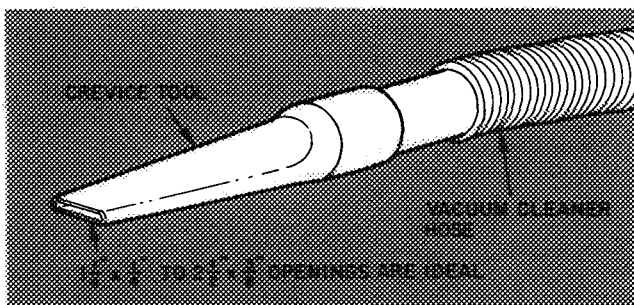

Fig. 10 — Crevice Cleaning Tool
- Clean coil using vacuum cleaner and its crevice tool (see Fig. 10). Work crevice tool *vertically* making sure tool only touches dirt on fins. To prevent fin damage, do not "scrub" fins with tool or move tool horizontally.